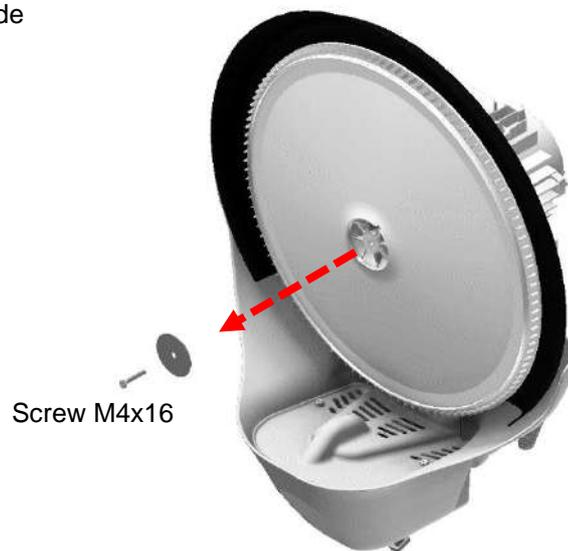

Fig. 4.4.2
- Using a screwdriver (hex 7), loosen the M4x16 fixing screw of the rotating disc to the motor shaft and its washer (Fig. 4.4.2).